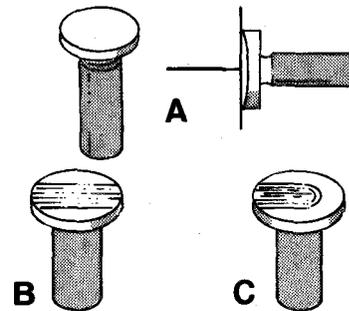

Figure 6-8
5. Check eight valve tappets for pitting and cracks (Figure 6-8).